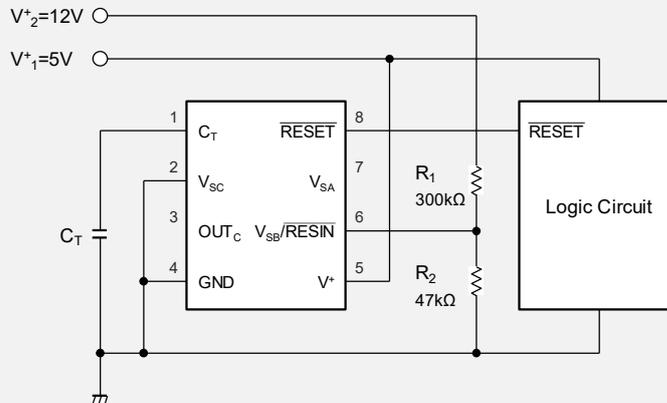

Fig. 5 5V, 12V power supply monitor (dual power supply monitor : $V_1^+ = 5V$, $V_2^+ = 12V$)
- V_2^+ detection voltage (falling, rising) is set by R_1 and R_2 according to following formula. In case of resistor value in Fig.5, the detection voltage (falling) is about 9.0 V and the detection voltage (rising) is about 9.2 V.